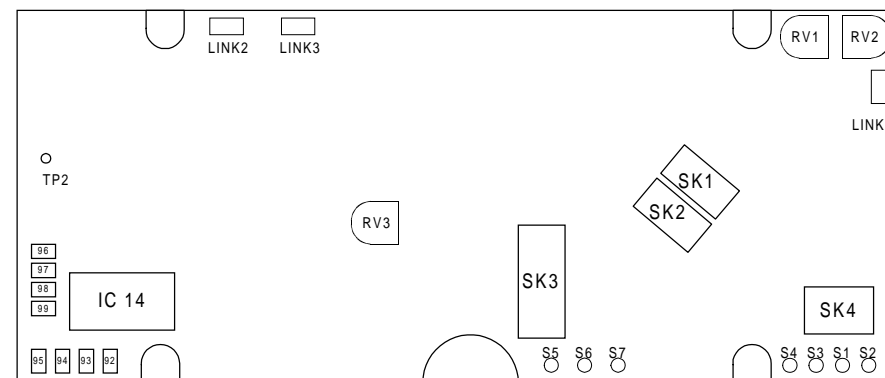

Figure 5 T800-32-0010 Link Location - Top Side
13. If the transmitter will be operating in VHF (frequencies <360 MHz), solder short LINK2 and LINK 3 (see Figure 5).